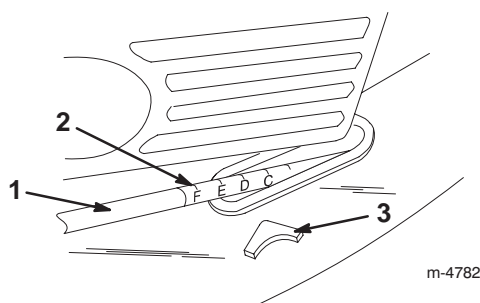

Figure 15
3. Lift up or press down on the handle, and use the pointer and the cutting height setting on the link rod to set the lawn mower to the desired cutting height (Fig. 15).